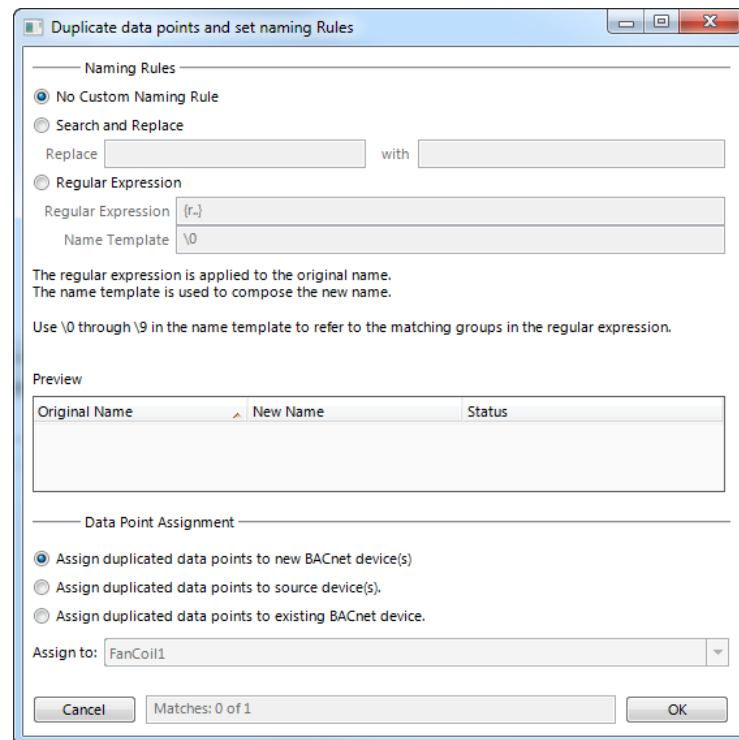

Figure 201: Duplicate BACnet devices.
3. The **Duplicate data points and set naming rules** dialog opens as shown in Figure 201.